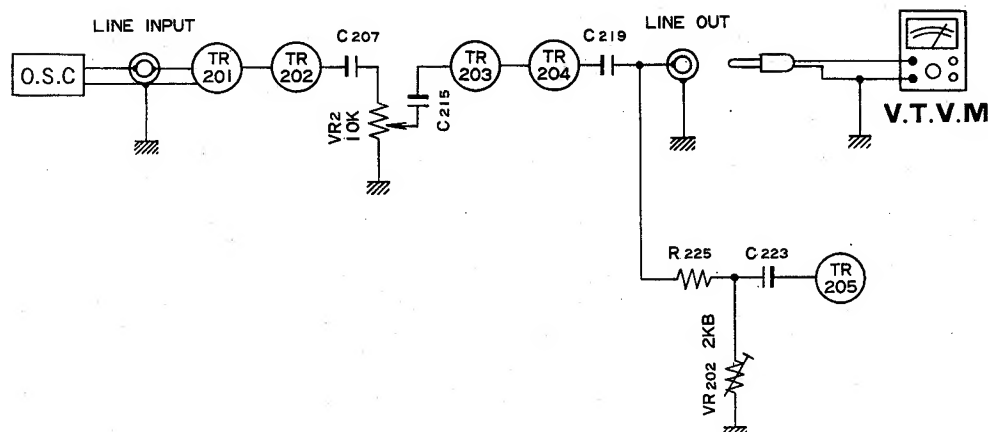

Fig. 4 OLD TYPE
(B) Recording and Playback for REEL (See Fig. 4)
(See Fig. 4)